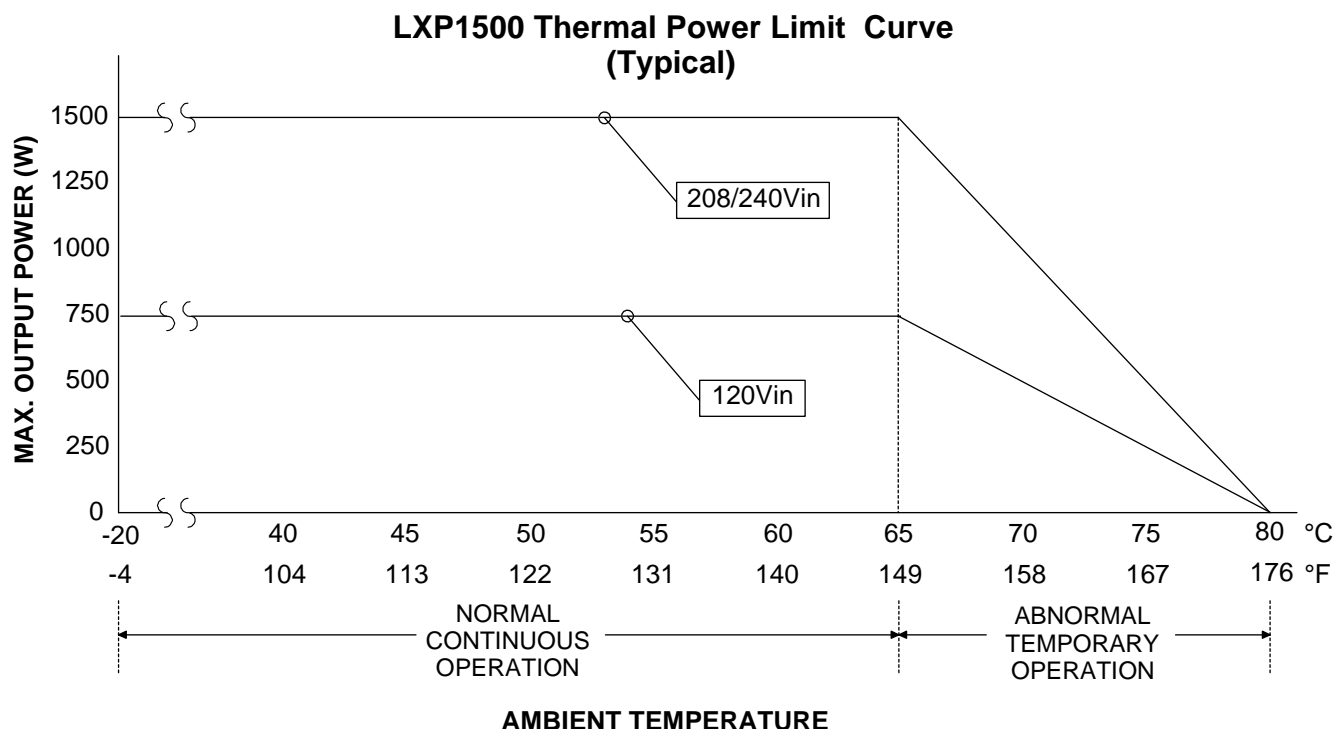

Figure 2
- (C) **Output Fusing:** Output fusing is provided in each PCU. If a fuse opens, local and remote PCU Fail Alarms activate. This fusing is not customer replaceable.
- (D) **Thermal Power Limiting:** Each PCU continuously monitors the ambient temperature surrounding the power conversion unit circuit. If this temperature for any reason (such as a high ambient office temperature) increases above approximately +65°C (+149°F), the PCU will not shut down. Rather, the PCU will limit its maximum output power to maintain the temperature of the power conversion circuit within design parameters. Full power capability is restored when the temperature decreases to below approximately +65°C (+149°F). Figure 2 illustrates typical operating parameters.